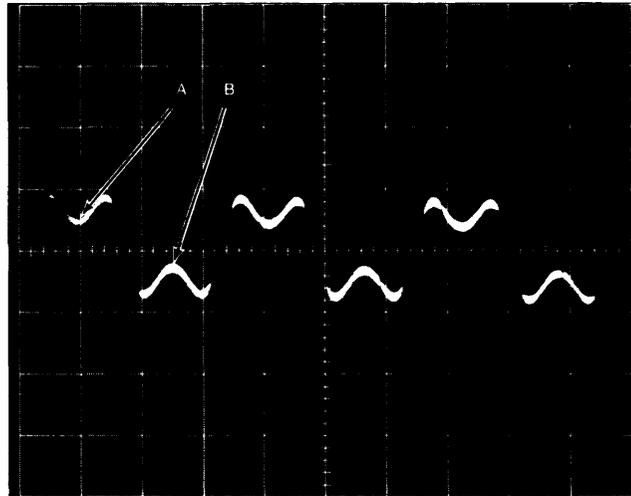

Figure 5-11: Write 1F Waveform
5. Depress and release the DWRITE 1F pushbutton and observe the oscilloscope display. The presentation should be like that of Figure 5-11. If the waveform is distorted or if point A and point B overlap, there is a problem in the read or write circuit.